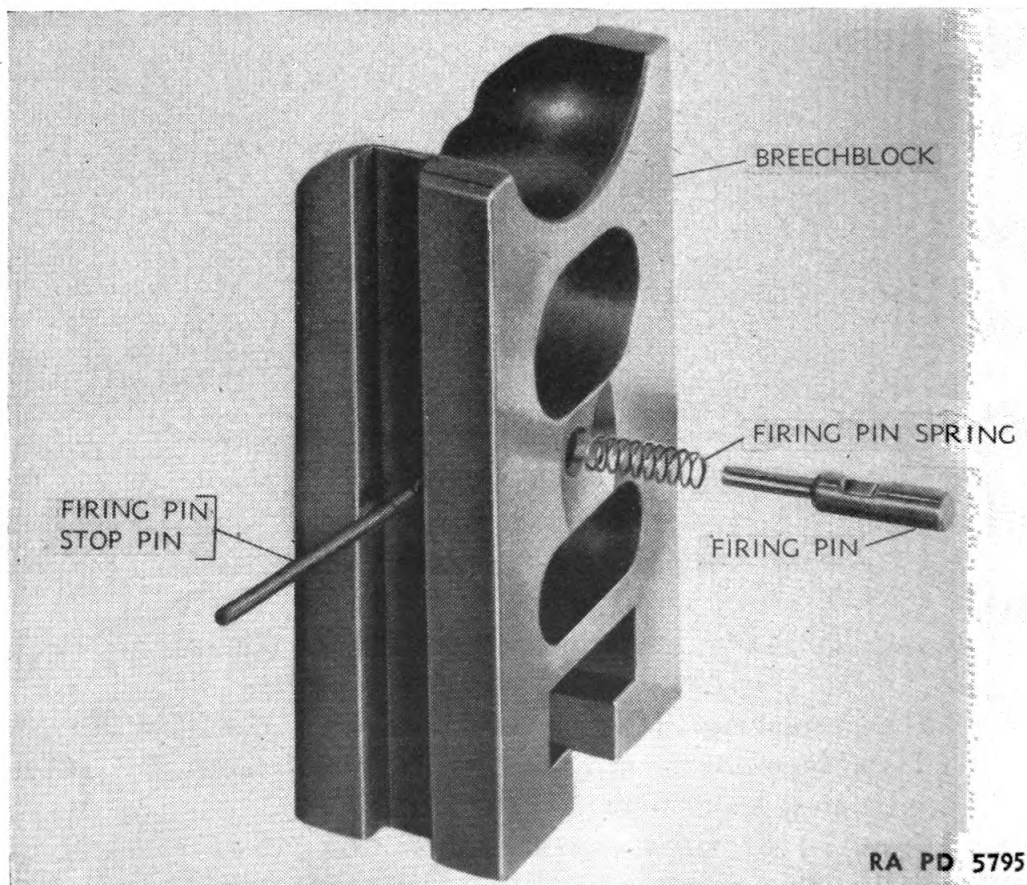

FIGURE 61.—Disassembly of breechblock.
*b. Disassembly* (fig. 61).—(1) Hold a finger over the back part of the firing pin.
(2) Push out the firing pin stop pin by means of a piece of wire or a nail.